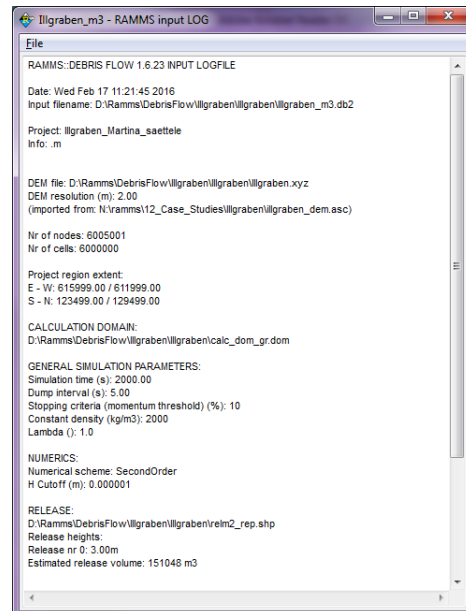

Figure 4-4: RAMMS Project Input Log file.
- (1) Information on simulation time and resolution. Be sure the simulation stopped due to **LOW FLUX** or **CENTER of MASS**. Otherwise the output **TIME END CONDITION** informs you, that your simulation stopped before the debris flow reached the stopping criteria you defined for the simulation (see section 4.2.5 on page 74).
- (2) Information on simulation results.
- (3) Input logfile (see Figure 4-4).